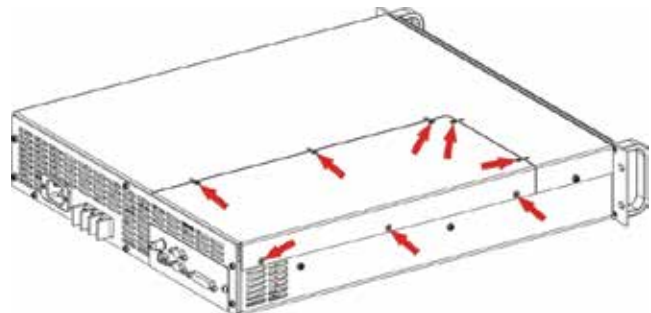

Figure B.1.1 – Access Panel Screw Locations
1. Locate the Access Panel as shown in **Figure B.1.1**. Make sure that all 8 screws are accessible. Remove the unit from its rack, if necessary.